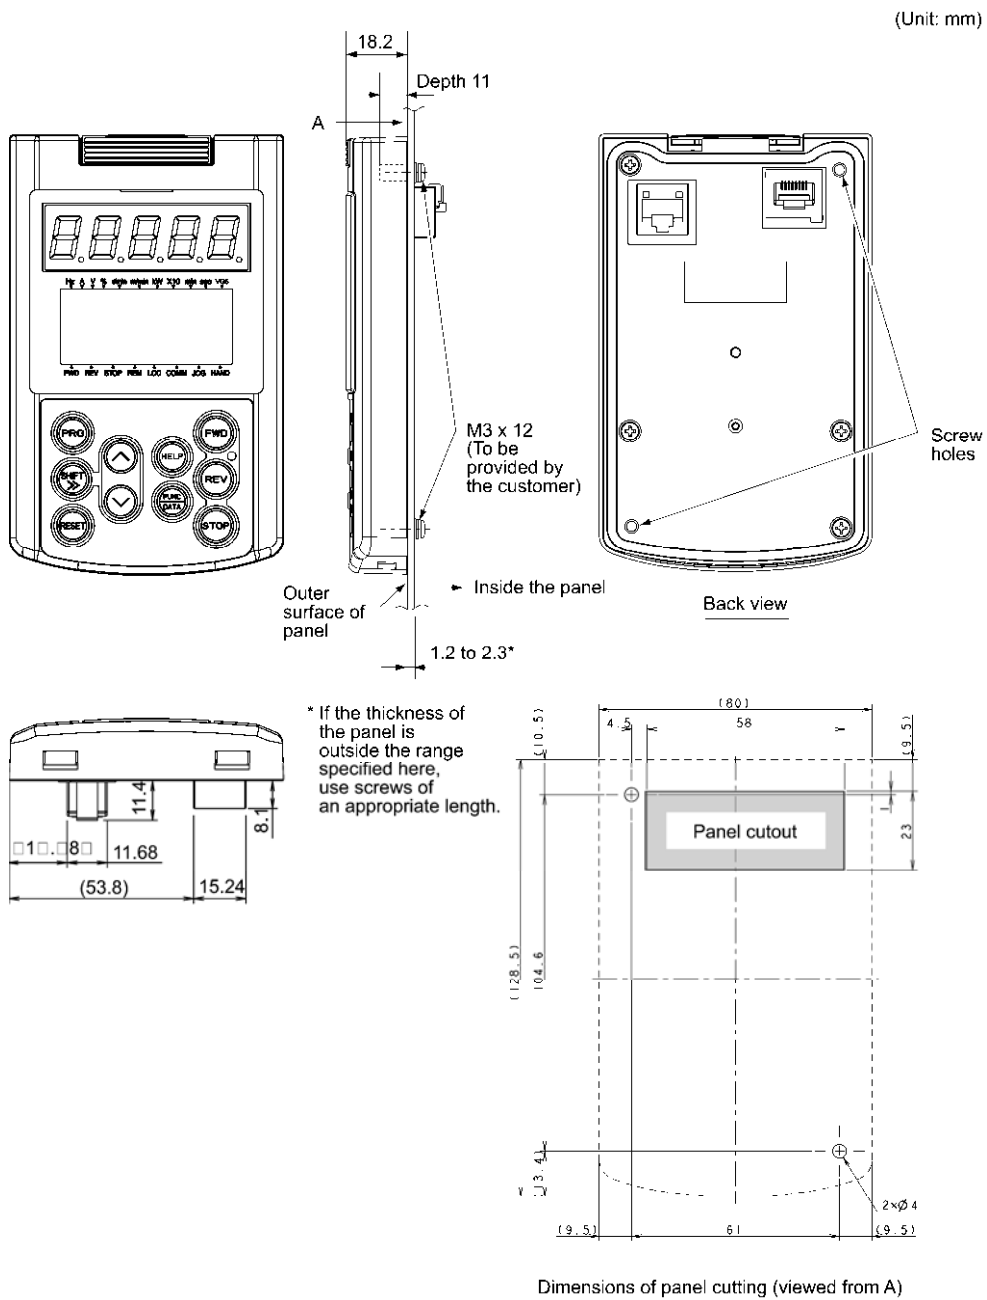

Figure 2.3-6 Location of Screw Holes and Dimension of Panel Cutout
(1) Cut the panel out for a single square area and perforate two screw holes on the panel wall as shown in Figure 2.3-6.